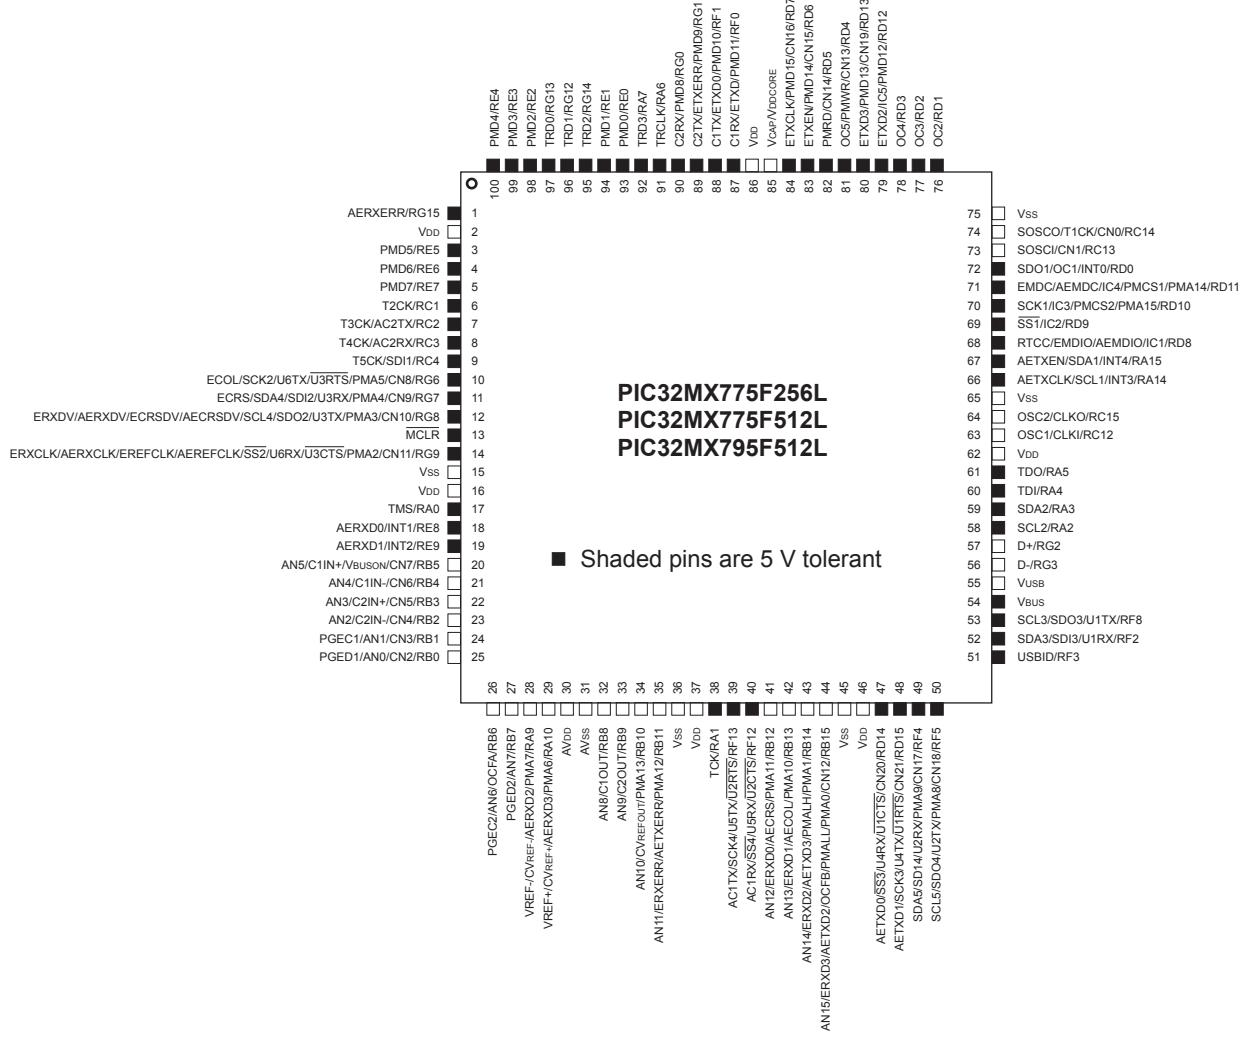

Figure 2.1: The pinout of the PIC32MX795F512L used on the NU32.
To cram so much functionality into only 100 pins, many pins serve multiple functions. See the pinout diagram for the PIC32MX795F512L (Figure 2.1). As an example, pin 21 can be an analog input, a comparator input, a change notification input (which can generate an interrupt when an input changes state), or a digital input or output.
For example, pin 78 in Figure 2.1 can serve as OC4 (output compare 4) or RD3 (digital I/O number 3 on port D). Let's say we want to use it as a digital output. We can modify the SFRs that control this pin to disable the OC4 function and to choose the RD3 function as digital output instead of digital input. The PIC32MX5xx/6xx/7xx Data Sheet explains the memory addresses and meanings of the SFRs. Be careful, because it includes information for many different PIC32 models. Looking at the data sheet section on Output Compare reveals that the 32-bit SFR named "OC4CON" determines whether OC4 is enabled. Specifically, for bits numbered 0 ... 31, we see that bit 15 is responsible for enabling or disabling OC4. We refer to this bit as OC4CON(15). If it is cleared (0), OC4 is disabled, and if it is set (1), OC4 is enabled. So we clear this bit to 0. (Bits can be "cleared to 0" or simply "cleared," or "set to 1" or simply "set.") Now, referring to the I/O Ports section of the Data Sheet, we see that the input/output direction of Port D is controlled by the SFR TRISD, and bits 0-15 correspond to RD0-15. Bit 3 of the SFR TRISD, i.e., TRISD(3), should be cleared to 0 to make RD3 (pin 78) a digital output.
Digital Input and Output A digital I/O pin configured as an input can be used to detect whether the input voltage is low or high. On the NU32, the PIC32 is powered by 3.3 V, so voltages close to 0 V are considered low and those close to 3.3 V are considered high. Some input pins can tolerate up to 5.5 V, while voltages over 3.3 V on other pins could damage the PIC32 (see Figure 2.1 for the pins that can tolerate 5.5 V).